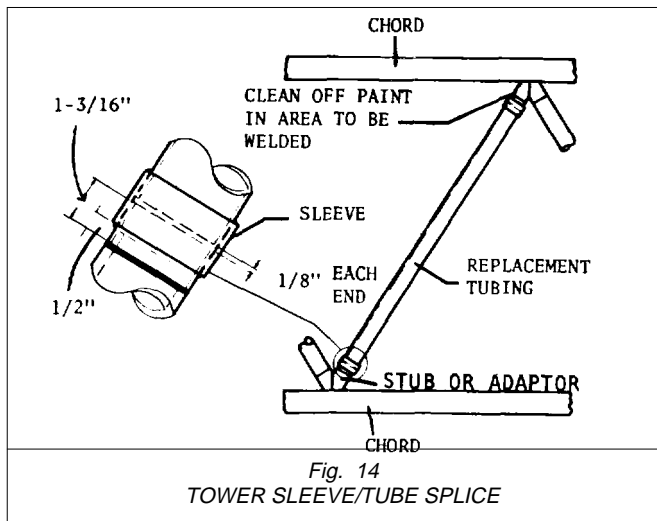

Fig. 14
(1) Cut out the damaged lattice 1-3/16" from the weld of the adaptor. See Figure 14.
- (2) Measure the distance between the "stubs" for cutting the replacement tube to length. Allow 1/8" gap at each end of the tube as shown in Figure 14.
- (3) Cut the replacement tube to the length determined in step 2. Clean the tube and "stubs" to bright clean metal and de-burr each end.
- (4) Slip both sleeves onto the replacement tube and set it into place between the "stubs".
- (5) Position one sleeve so that it is midway over the gap. The other end should have approximately 1/8" gap. See Figure 14. Weld all around each end of the sleeve positioned per step 5. Use an A.W.S. E6013, or E7018, either 3/32" or 1/8" diameter. (The amperes and voltage should be set within the ranges recommended by the electrode manufacture, see Appendix C).
- (6) Repeat steps 4 and 5 for the sleeve at the opposite end.
- (7) Inspect welds correct if required.
- (8) Repaint.